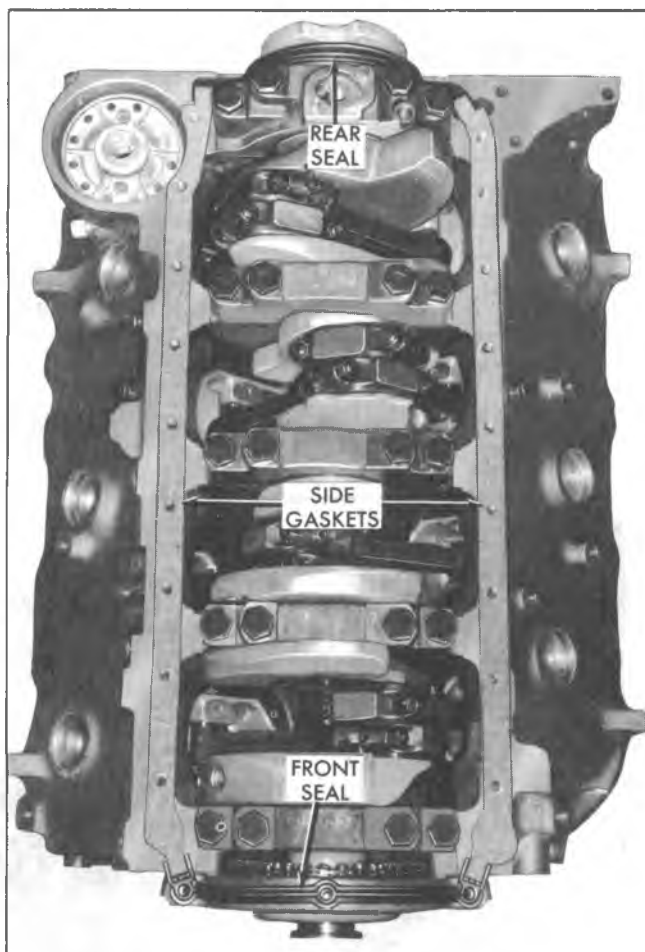

Fig. 4V—Oil Pan Gasket and Seal Location
2. Install new oil pan side gaskets on cylinder block using gasket sealer as a retainer. Install new oil pan rear seal in rear main bearing cap groove, with ends butting side gaskets. Install new oil pan front seal in groove in crankcase front cover with ends butting side gaskets (fig. 4V).